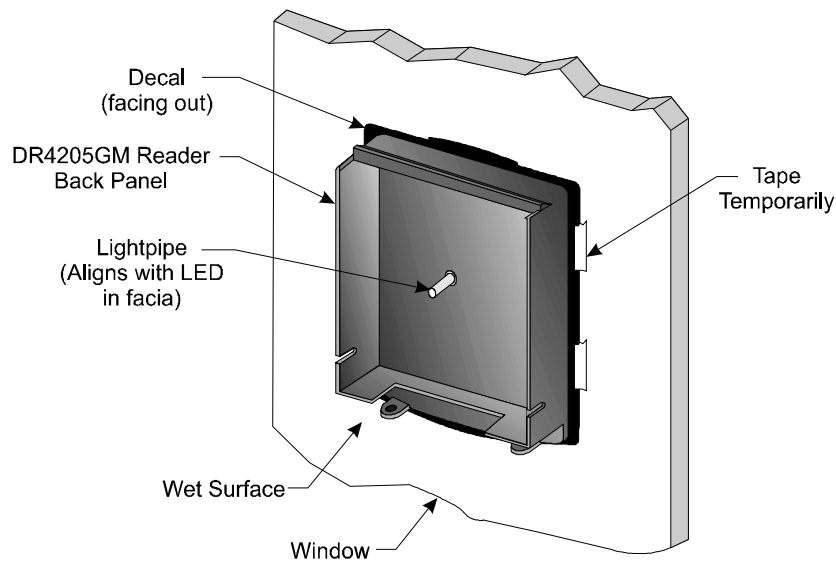

Figure 13: Placement of Decal and Reader onto Glass
3. While the window is still wet, peel off the paper backing of the decal and press against the wet section of the window and move around to release any air bubbles to assure maximum contact with the window. Wipe dry any extra water coming out from the sides. See Figure 13.